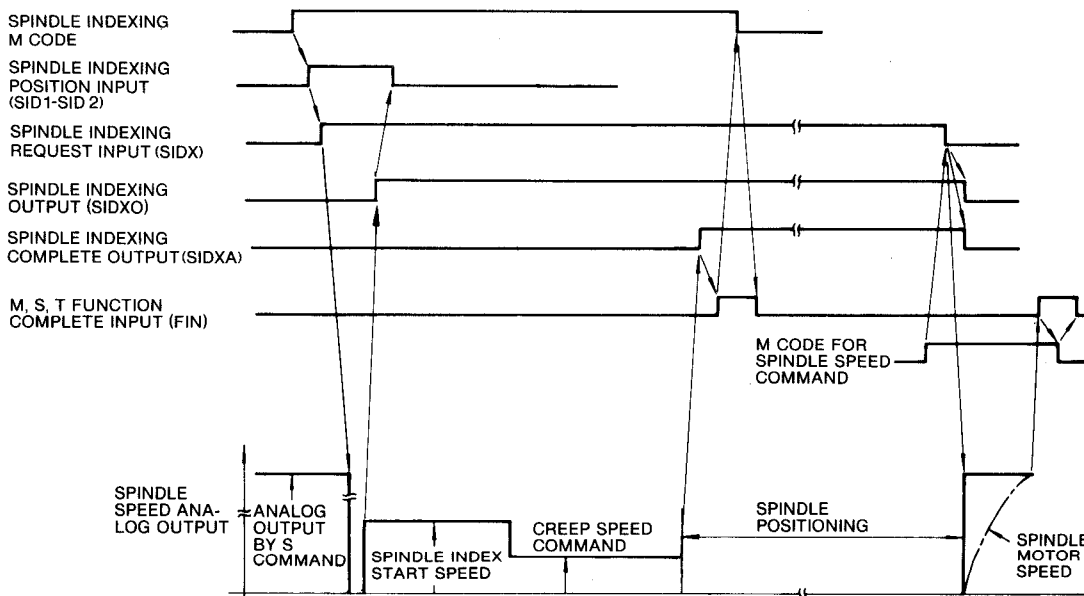

Fig. 19.17
- Spindle index by m code at spindle forward operation (Spindle positioning is continued until next spindle speed command after spindle index is completed.) See Fig. 19.17.